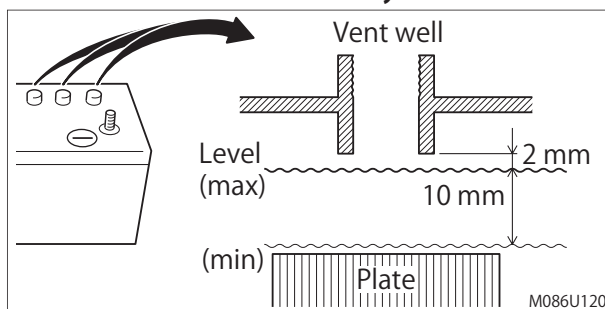

fig. 7-2
- (1) Check the battery fluid levels every day (especially when using the machine in warm and dry climates).
- (2) When the battery fluid level has dropped more than 10 mm, add only distilled water until the battery fluid level is 2 mm below the bottom of the fill well. (fig. 7-2)